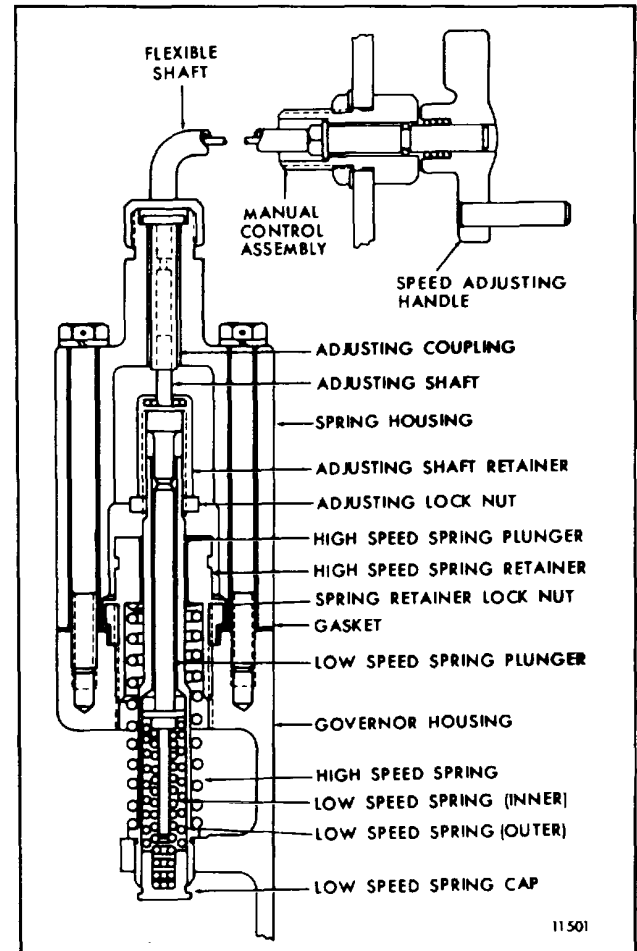

Fig. 1 - Governor Spring Housing and Components
During highway operation, the governor functions as a limiting speed governor, controlling the engine idling speed and limiting the maximum operating speed. At the unloading area, the throttle is left in the idle speed position and the speed adjusting handle (Fig. 1) is turned to obtain the speed required to operate the auxiliary equipment. The governor then functions as a variable speed governor, maintaining a constant speed even when the load is constantly changing, during the unloading operation.
- a Back out the variable low-speed adjusting shaft until the shoulder on the shaft contacts the shaft retainer (Fig 1).